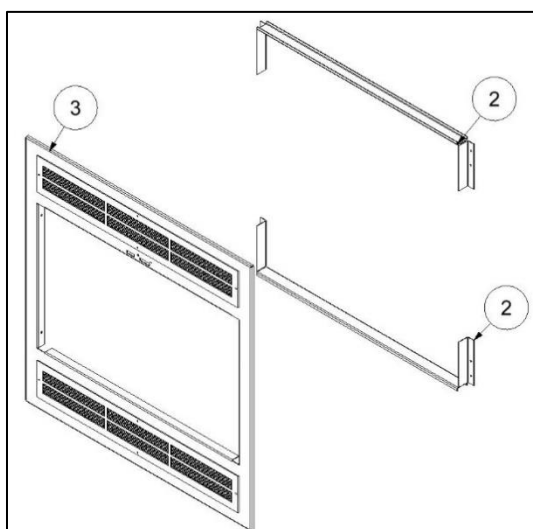

Figure 3-11: Traditional Surround Components
The traditional surround comprises louvers below (intake) and above (outtake) the door. All components and fasteners are included in the surround kit. Refer to Figure 3-11 Table 3-2 for the instructions below.
4. Place the surround (Item 3 in Figure 3-11) within the door holder and secure it in place with four black screws (one on each corner). Make sure that the handles of the Combustion Air Control pass through the slots of the surround.